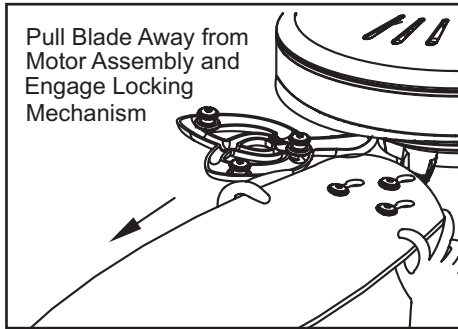

Figure 13b
3. While still holding the blade down with both hands, firmly slide the blade away from the motor housing until the blade engages in the locking mechanism. Make sure the steel locking mechanism at the rear of the blade bracket springs upward and butts against the edge of the blade indicating a secure connection (Figure 13b).